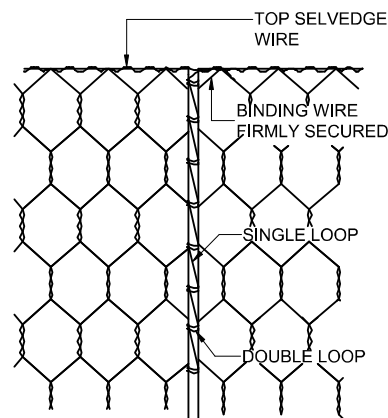

FIGURE 3
3. SECURING THE BINDING WIRE AROUND THE TOP SELVEDGES OF THE PANELS TO BE JOINED TOGETHER, LACE THE WIRE AROUND THE TWO EDGE SELVEDGES WITH SINGLE LOOPS IN TURN AT 100mm INTERVALS (FIGURE 3). FINALLY, FASTEN THE WIRE SECURELY AT THE BOTTOM CORNER SELVEDGES AND POKE THE LOOSE END INSIDE THE GABION BOX. THEN LIFT THE DIAPHRAGMS INTO THE VERTICAL POSITION AND WIRE THEM UP TO THE SIDE PANELS IN EXACTLY THE SAME WAY. THE TIGHTNESS OF THE MESH AND WIRING IS ESSENTIAL AT ALL TIMES.